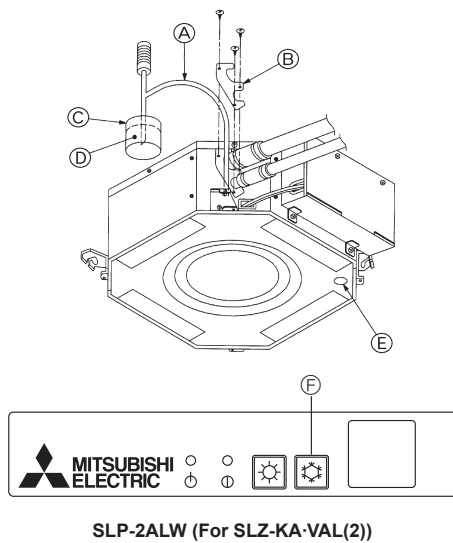

Fig. 9-5
9.4.1. For wireless remote controller (Fig. 9-5)